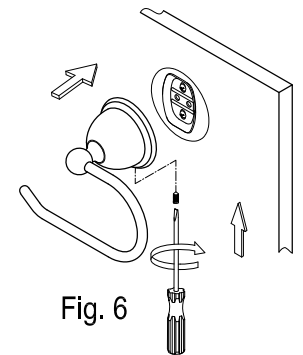

Fig. 6
- Step 5. Place the unit, with the small hole in the base underneath, over the mounting plate by tightening the slotted set screws with a flat head screwdriver until the base is tightly fixed (fig 6).